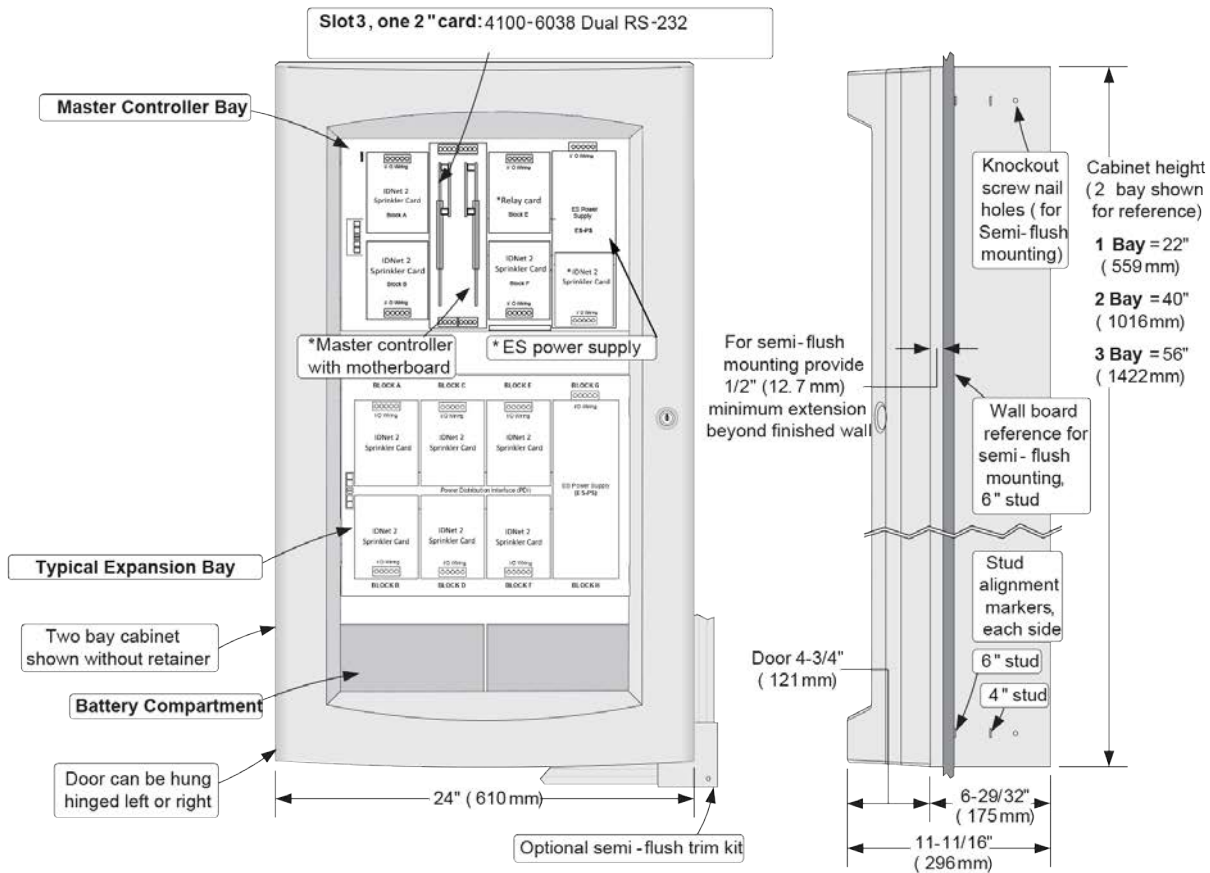

Figure 5: Mounting and CPU bay module reference
2. Asterisks (*) in Figure 5 indicates supplied modules.